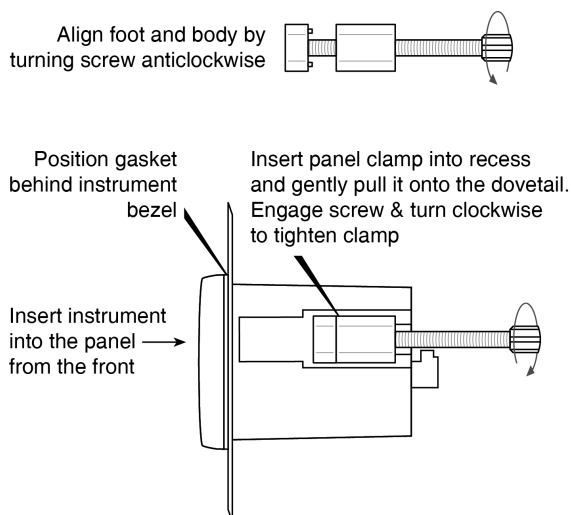

Fig 4 Fitting panel mounting clamps
- Place a clamp in the recess on each side of the Counter, pulling gently to slide it onto the dovetail as shown in Fig 4. Push the knurled screw slightly forward to engage the thread and tighten by turning clockwise until it is just finger tight. When all clamps are fitted ensure that the gasket behind the front panel bezel is correctly positioned before fully tightening the clamps to secure the instrument. The maximum recommended clamp tightening torque is 22cNm (1.95 lbf in) which is approximately equivalent to finger-tight plus one half turn. **Do not over tighten.**